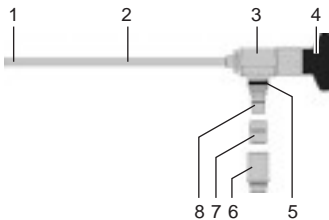

Fig. 1 Construction
- Disassemble the light guide connector (see Fig. 1).